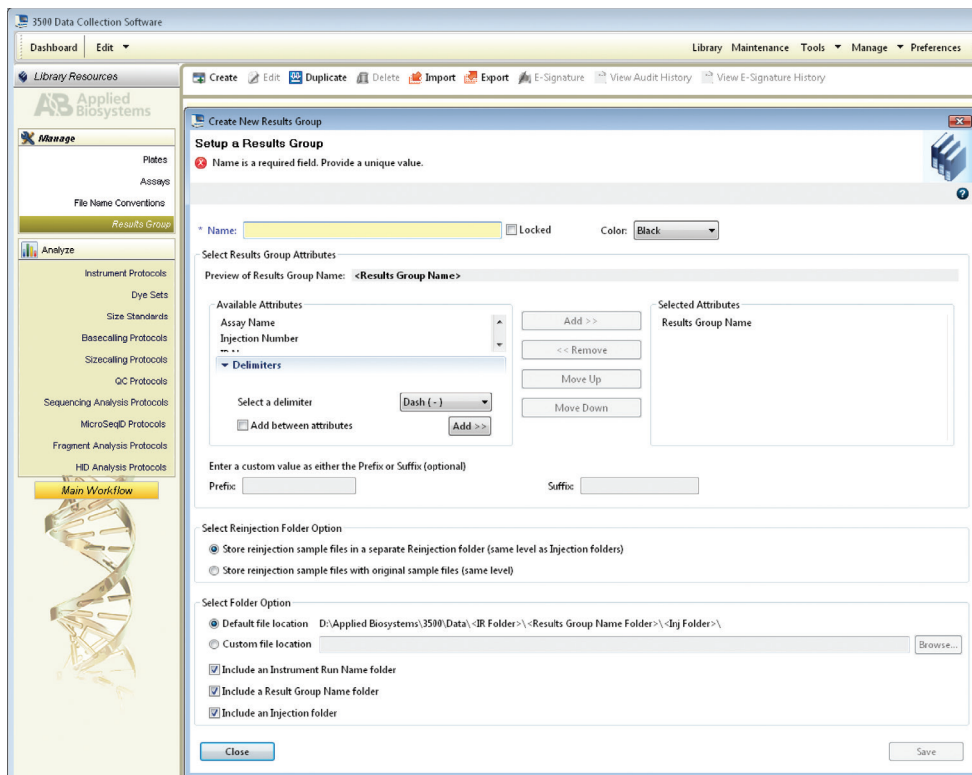

Figure 7. The ‘Create New Results Group’ window.
2.f. To create a new Results Group (Figure 7), navigate to the Library. Select **Results Group**, then select **Create**. Alternatively, a previously created Results Group can be used.